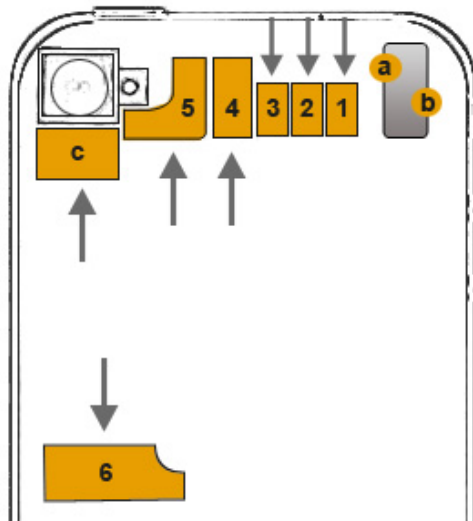

Figure 5
- The removal of the EMI shields will expose a number of connectors to be unplugged (lifted up) from the motherboard. Refer to figure 5 to find the locations of these connectors. Carefully lift up the connectors one by one using a safe open pry tool and these will easily pop up. The arrows in the figure 5 points to the directions for lifting up the connectors.
- Now remove the vibrating motor which requires only unscrewing of the two screws using Phillips Screwdriver. The locations of the vibrating motor (silver rectangle) and the screws (a and b) are also indicated in the figure 5.
- With the help of safe open pry tool gently lift up the connector (c) which connects the camera (refer to figure 5). Once the connector is lifted up, the camera can be easily removed.